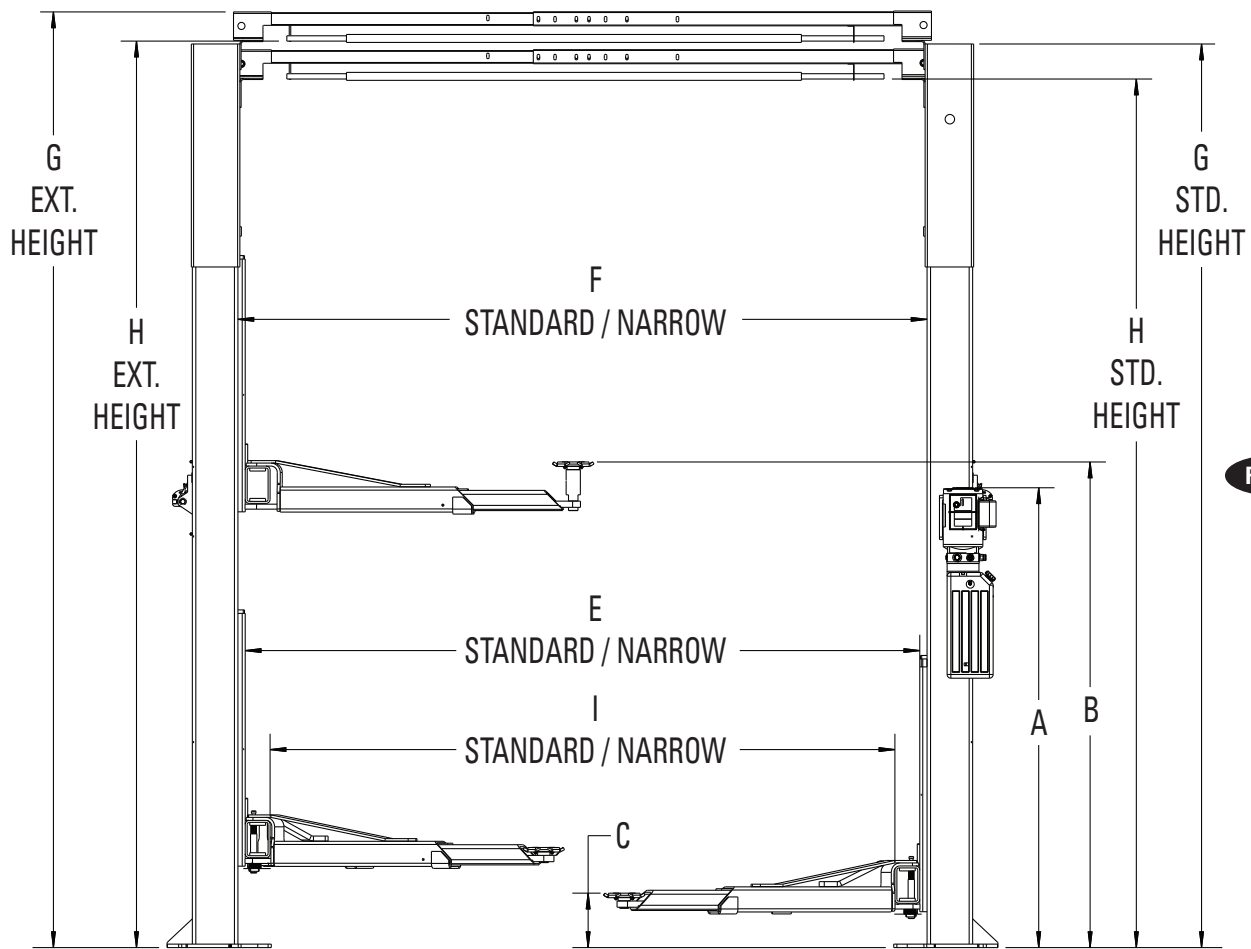
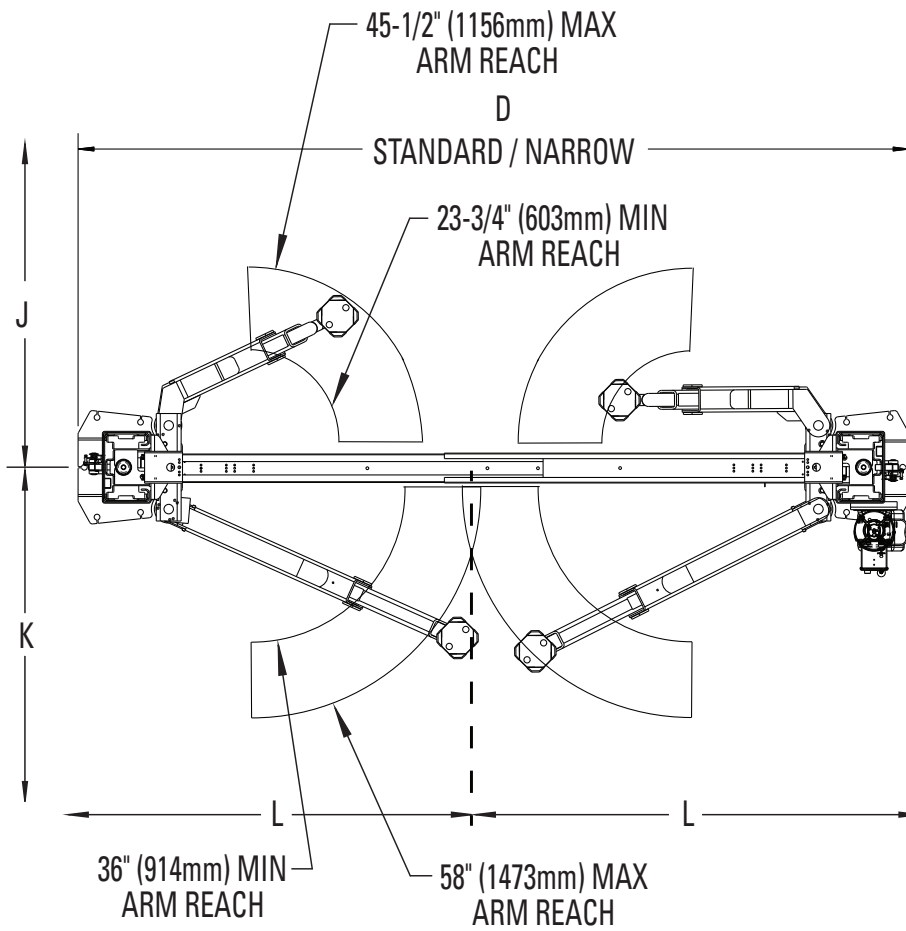

Fig. 1a
Fig. 1b
**1. Lift Location:** Use architects plan when available to locate lift. Fig. 1a & Fig. 1b shows dimensions of a typical bay layout.
**8. Lift Setting:** Position columns in bay using dimensions shown in Fig. 1a & Fig. 1b. Place column with power unit mounting bracket on vehicle passenger side of lift. Both column base plate backs must be square on center line of lift. Notches are cut into each base plate to indicate center line of lift. Use appropriate equipment to raise carriage to first latch position. Be sure locking latch is securely engaged.